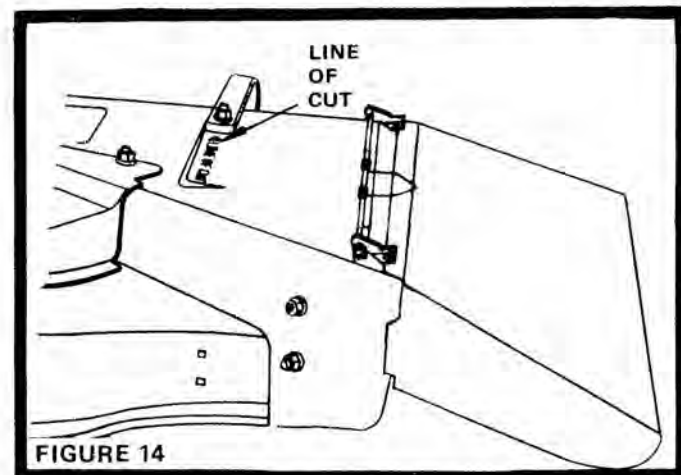
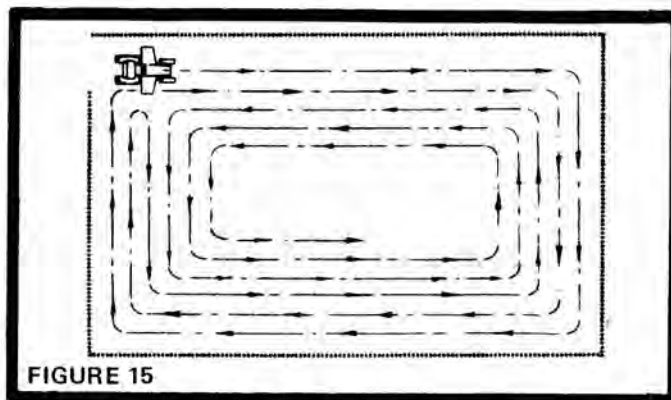

FIGURE 14
FIGURE 15
4. Drive so that clippings are discharged onto the area that has been cut. See Fig. 14 for line of cut on right hand side of mower. Have the cut area to the right of the machine. This will result in a more even distribution of clippings and more uniform cutting. When mowing large areas (Fig. 15), start by turning to the right so that the clippings will be discharged away from shrubs, fences, driveways, etc. After two or three rounds, mow in the opposite direction making left hand turns until finished. If grass is extremely tall, it should be mowed twice. The first time cut relatively high. The second time to the desired height. The left hand side of mower should be used for trimming.